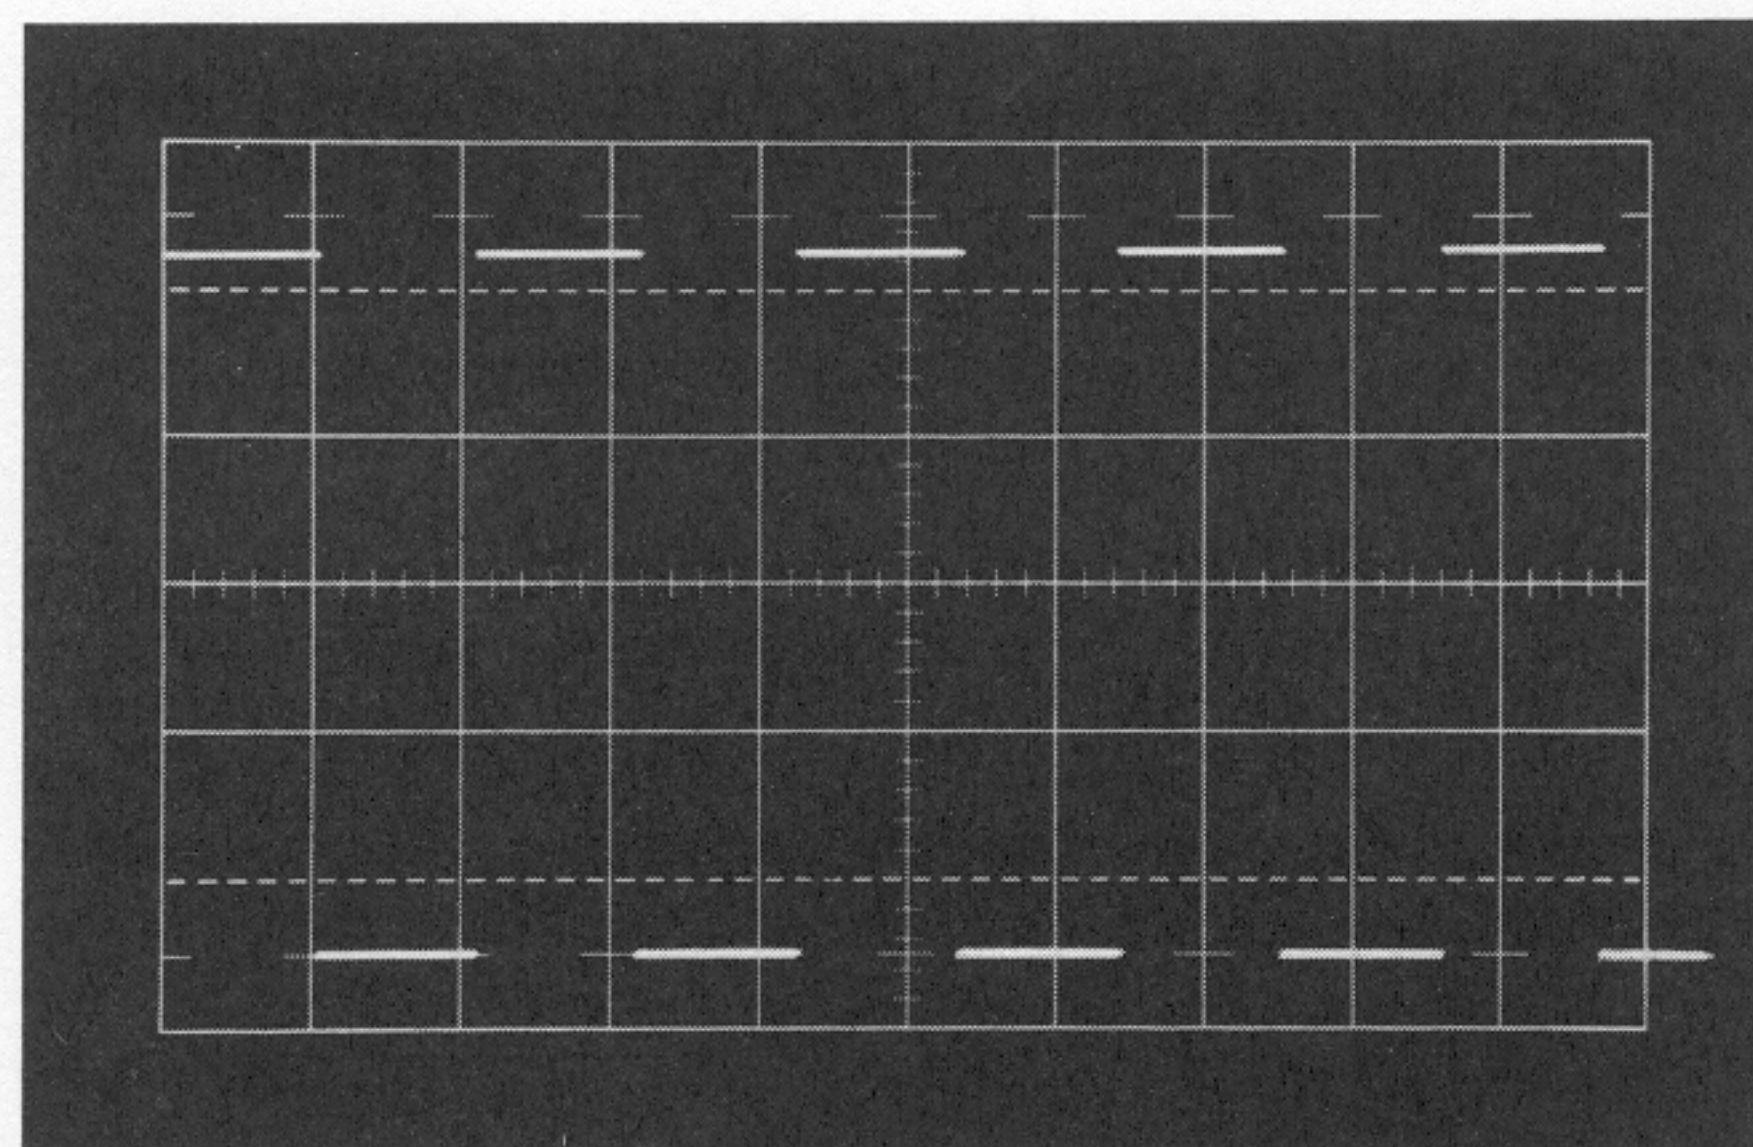

Fig. 5-28. Typical display obtained at the SIGNAL OUTPUT connector.
- CHECK—The test oscilloscope display for an amplitude of 1 volt peak to peak within a tolerance of $\pm 10\%$ (0.5 cm); see Fig. 5-28.
26. Check or Adjust Signal Output Divider ① Compensation
a. CHECK—The upper front corner of the Test Oscilloscope display. The waveform should appear similar to the one illustrated in Fig. 5-28; the top of the square wave should